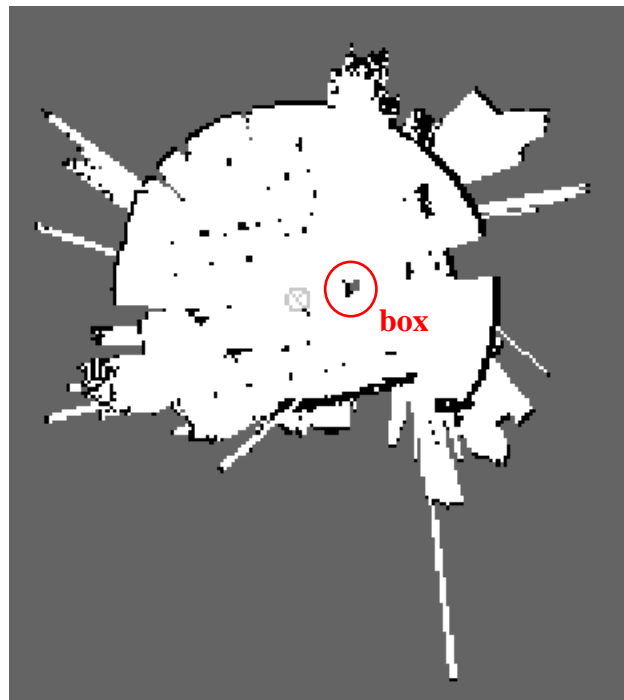

Figure 2.3: Configuration of the robot and obstacle for occupancy grid mapping required for path planning.
2. When the robot is back to the initial pose, you may see the box in the created map similar to Figure 2.3.